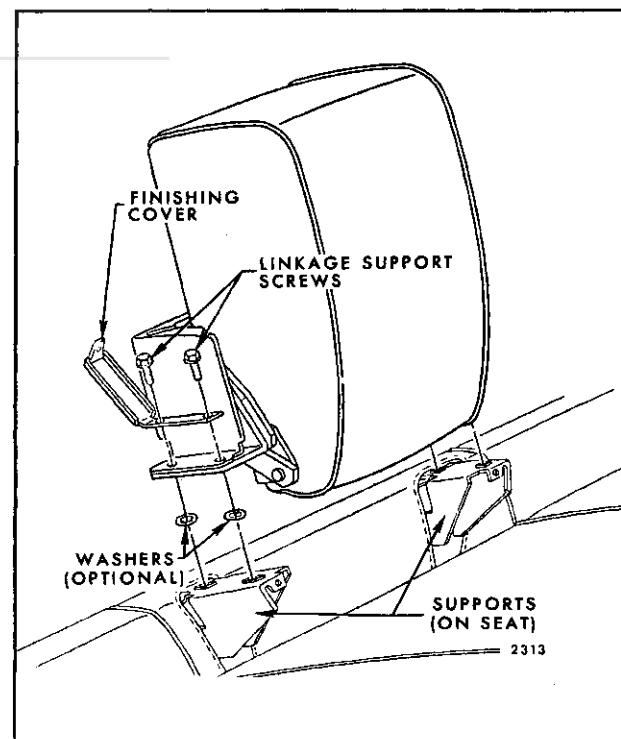

Fig. 15-27—Front Seat Center Arm Rest Support (Notch Down Seat Back)
3. Working at rear of seat, push one seat to full forward position. Carefully pull up front of screw finishing cover sufficiently to expose arm rest support attaching screws; then, remove screws (Fig. 15-27). Repeat this operation on opposite side of arm rest; then, carefully remove arm rest assembly, including trim panel finishing cover, from seat.
NOTE: If washers are present between arm rest support and supports on seat (Fig. 15-27), note location and number of washers used to
- To install, reverse removal procedure. Prior to bending down screw finishing covers check alignment and operation of arm rest. Where necessary to align arm rest with seat back(s) install washer(s), as required, between arm rest support and supports on seat (See Fig. 15-27).
- To install, reverse removal procedure. Prior to bending down screw finishing covers check alignment and operation of arm rest. Where necessary to align arm rest with seat back(s), install washer(s), as required, between arm rest support and supports on seat (See Fig. 15-27).